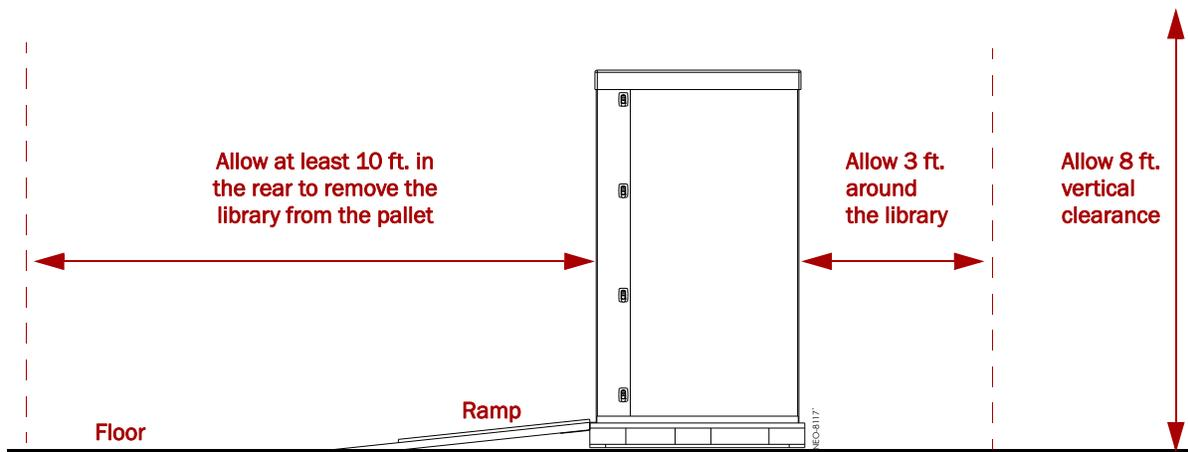

Figure 2-1. Unpacking Space Requirements
1. **Position** the shipping container on a level surface so there is enough clearance to work around it (Figure 2-1).